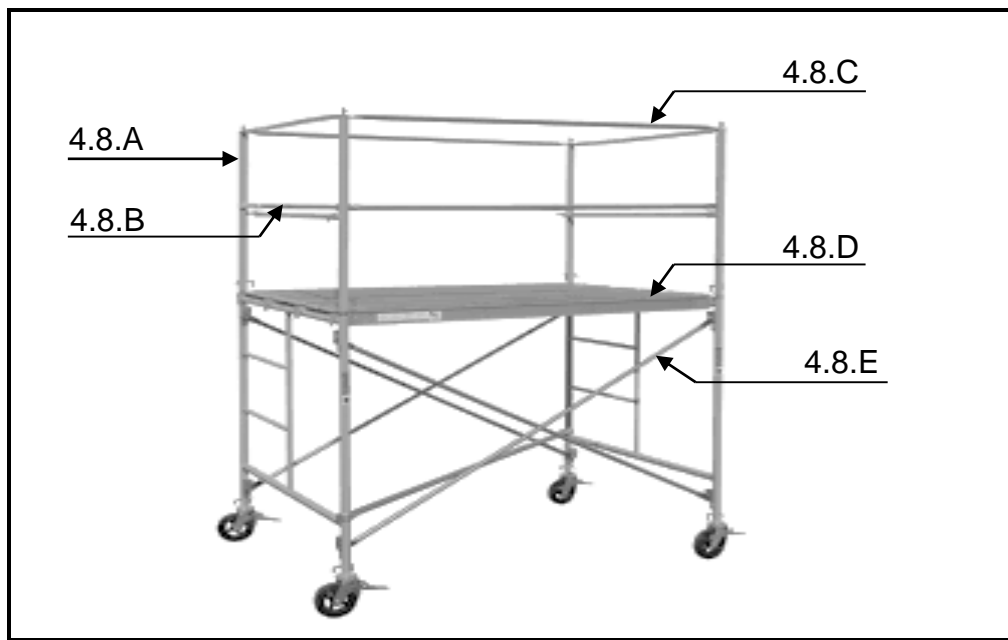

FIGURE 4.8
4.8 Answer the following questions with regard to the scaffold in FIGURE 4.8.